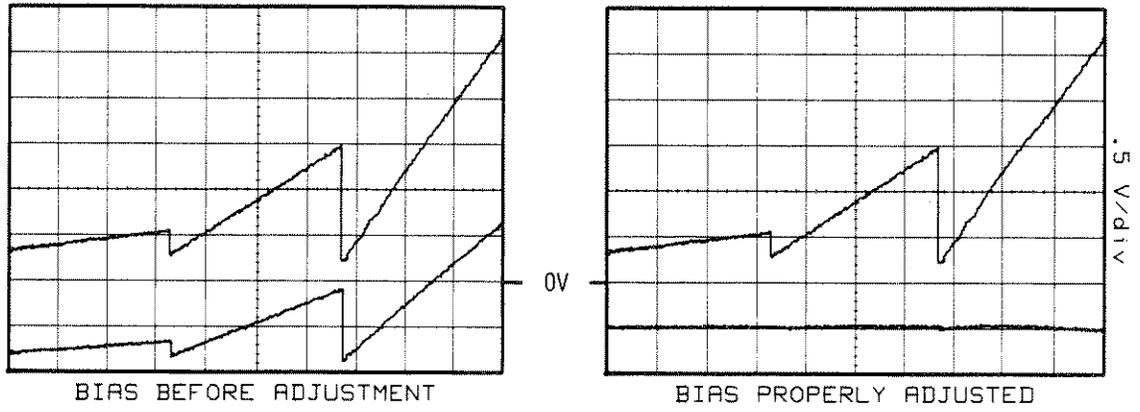

Figure 5-26. Low and Mid-Power Bias Adjustment
13. With the oscilloscope probe at A6TP3, two traces are displayed on the oscilloscope (see figure 5-26). The upper trace is segmented and extends to approximately +2-4 V. The lower trace is also segmented but can be adjusted.
- Adjust A6R63 (3HL) to obtain the flattest possible lower trace across the display. Then adjust A6R12 (C) to set this trace to a -0.5 V level.